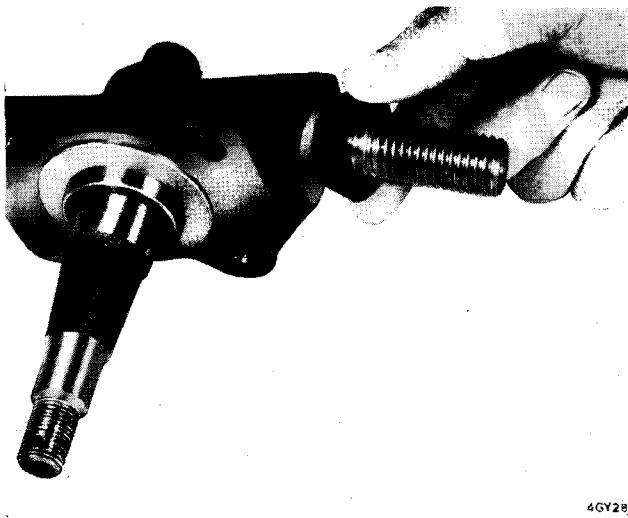

Fig. 8. Bottom trunnion seal
2. Fit a new seal (40) to the vertical link (Fig. 8).